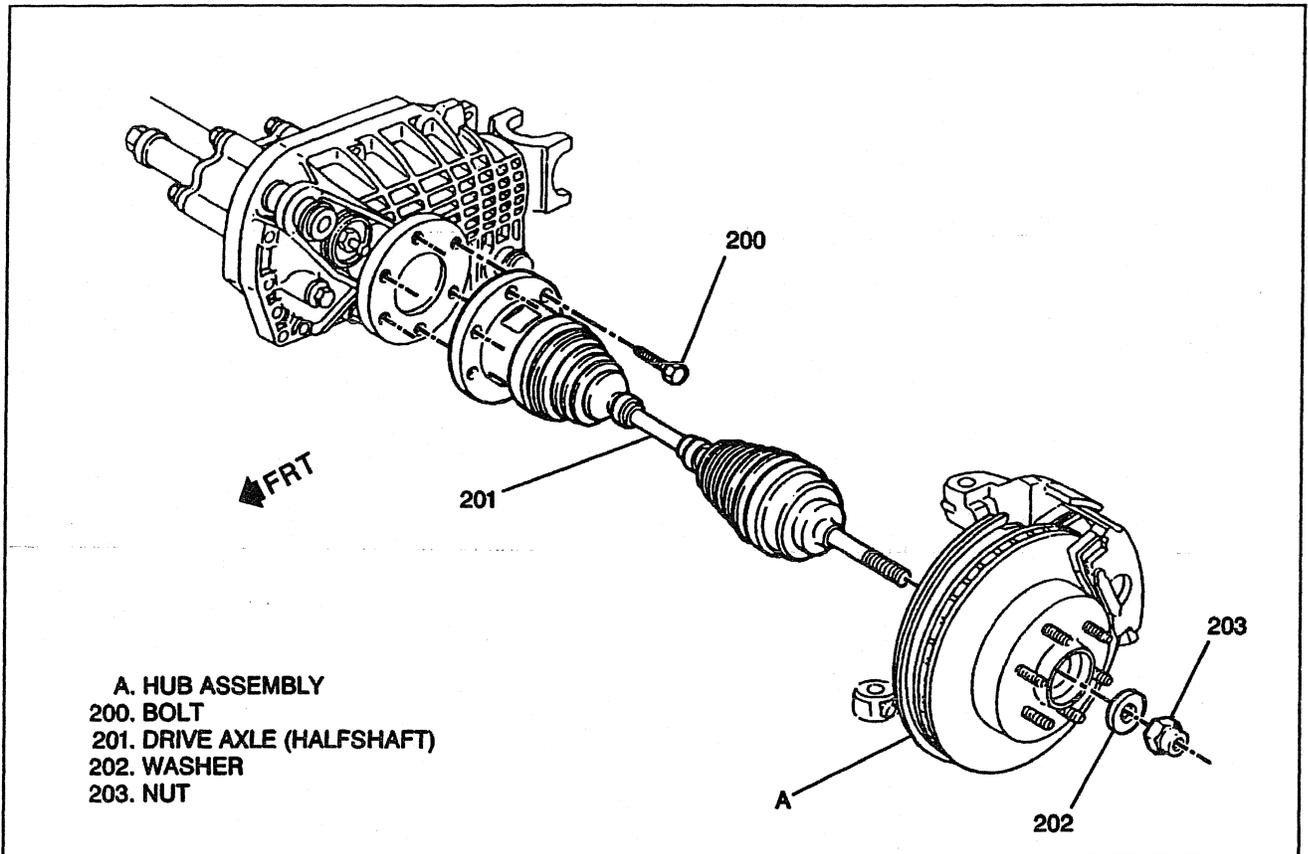

Figure 5—Drive Axle (Halfshaft)
### Remove or Disconnect (Figures 5 through 12)
2. Drive axle (halfshaft) hub nut (203) and washer (202) (Figure 5).
- Loosen, but do not remove the 6 bolts (200) securing inboard C/V joint drive flange to the output shaft companion flange (Figure 5).
14. Six bolts (200) from inboard joint flange (Figure 5).
### ↔ Install or Connect (Figures 5 through 12)